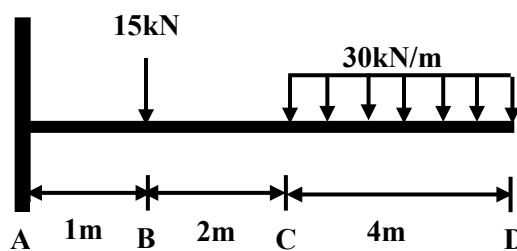

Figure 2(a) / Rajah 2(a)
- (a) The cantilevered beam in Figure 2(a) is embedded into a fixed vertical wall at A. Identify the free body diagram of the beam along with the known and the unknown forces.